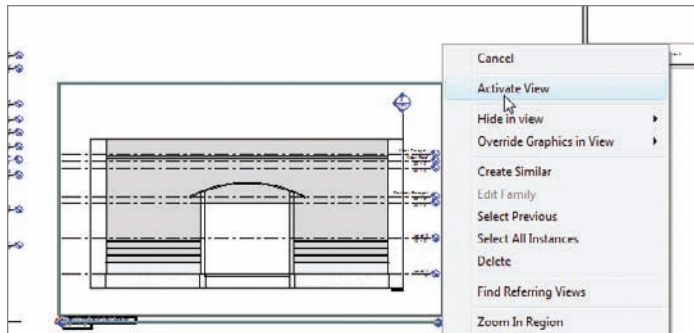

FIGURE 14.11 Activating a view
2. Zoom in on the viewport West Wing South Wall Section, as shown in Figure 14.11.
4. Right-click and select Activate View, as shown in Figure 14.11.